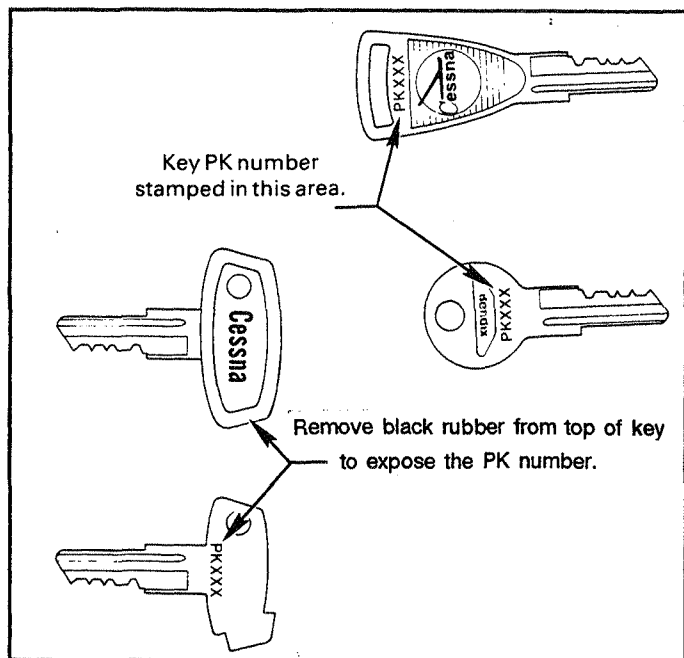

Figure 3. PK Number Location
- B. For key operated switches, due to the danger of removing the key from the switch in other than the "OFF" position, switch locks (1-20) utilizing keys marked with PK number code listed in Table 2 marked as shown in Figure 3 should be removed and replaced at customer's earliest convenience. If key is not marked with PK number code, refer to outside face of any matching door locks.